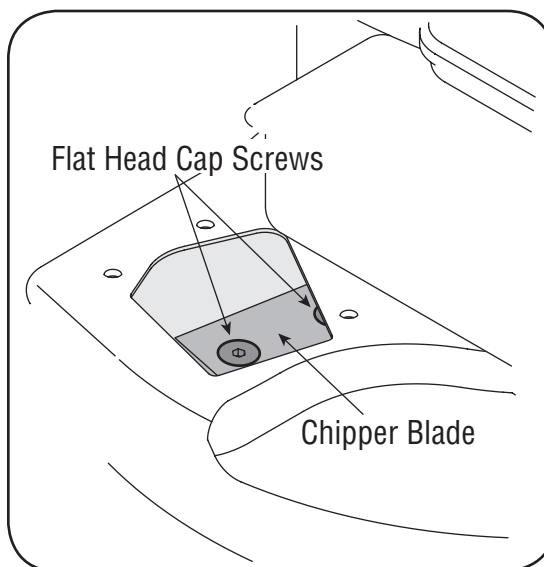

Figure 5-7
9. Using a 3/16" allen wrench, remove the flat head cap screws that hold the chipper blade to the impeller. These screws are accessible through the opening created when the chipper chute was removed earlier. See Figure 5-7.